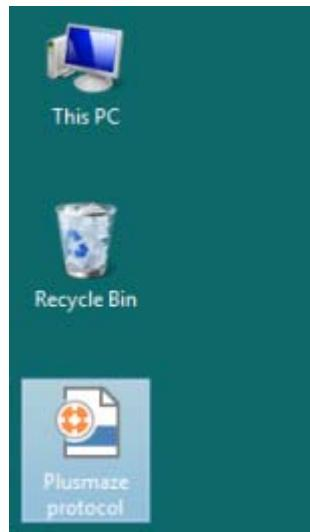

Figure 4. Double clicking a protocol file is a convenient way to open ANY-maze, create a new experiment and load a protocol - all with one action.
- Another short-cut way of creating a new experiment with a pre-loaded protocol is to double click a protocol file in the Window's explorer. This will open ANY-maze, create a new experiment and load the protocol into it - see figure 4.